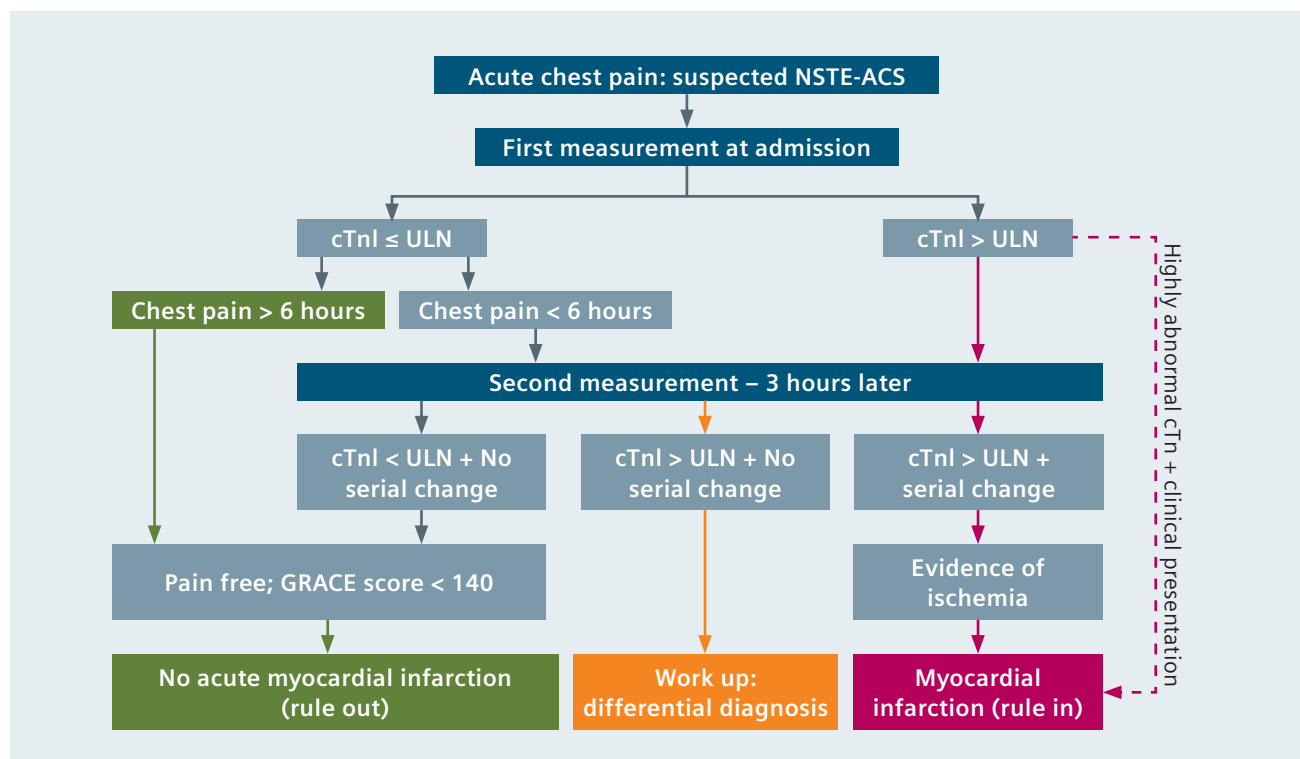

Figure 5: Algorithm for evaluating suspected NSTEMI (adapted from the 2011 ESC guidelines).[10]
4. Absolute changes in serial measurements can help to differentiate chronic from acute cardiac disorders (Figure 5).[10]